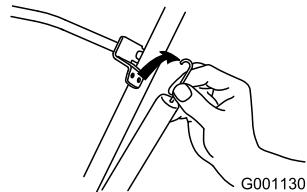

Figure 21
- Unhook the end of the control cable spring from the control bar (Figure 21).